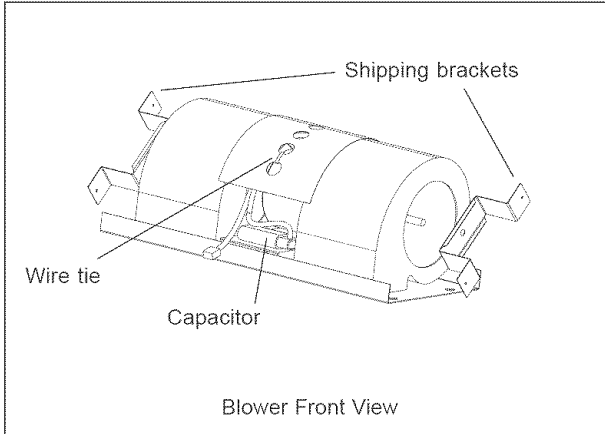

Figure 12a
2. Cut wire tie shown in Figure 12a. Locate the wire harness with the Molex 6-pin connector. Route wire harness out rear of blower, as shown in figure 12 b. below.